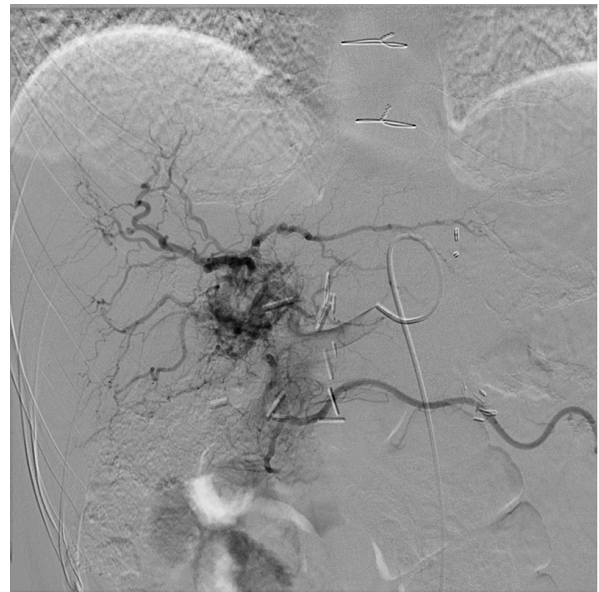

Fig.1 DSA - Complex vascularization of the tumor.
An initial DSA acquisition shows the complex vasculature of the tumor (Fig. 1) followed by an Innova 3D acquisition at 40°/s. The 3D volume is automatically reconstructed on the Advantage Workstation (AW) and displayed in the operating room. FlightPlan for Liver is then launched to analyze the liver vasculature and automatically highlight the vessels traveling to the hypervascular lesion. The physician identifies two main feeders and two injection points to treat the patient (Fig. 2).